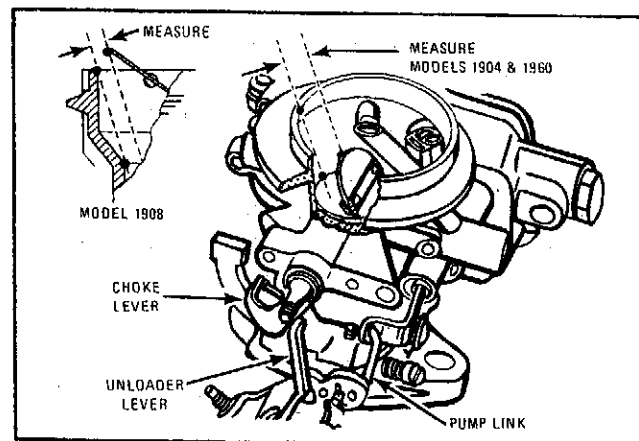

Figure 3
C. Accelerator Pump: (Fig. 3)
D. Unloader: (Fig. 3)
Hold throttle wide open and close choke valve until choke lever rests against unloader lever. The clearance, measured as shown in figure 3, between upper edge of choke valve and air horn wall should be as listed in specification table. To adjust, bend unloader lever.